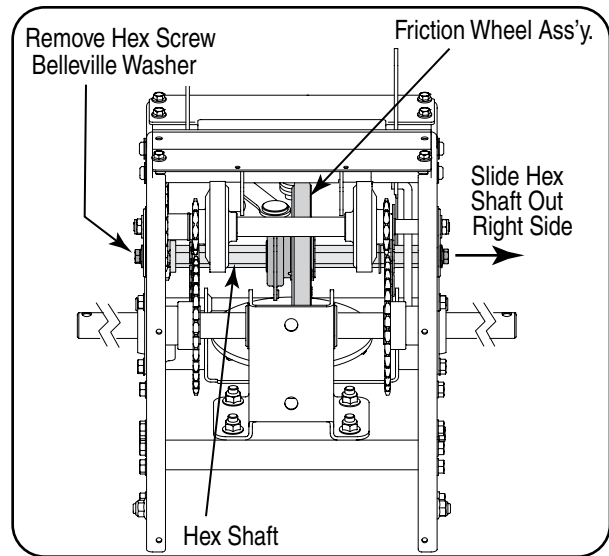

Figure 7-10
4. Using a 3/4" wrench, hold the hex shaft and remove the hex screw and Belleville washer and bearing from left side of the frame. Refer to Figure 7-10.